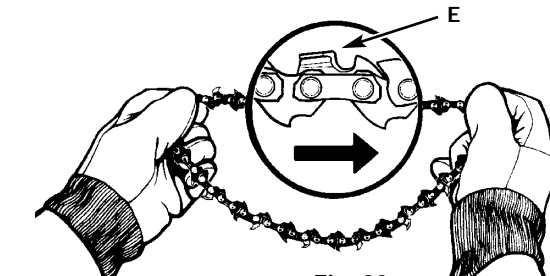

Fig. 20
1. Spread the chain out with the cutting edges (E) of the chain pointing in the DIRECTION OF ROTATION (Fig. 20).